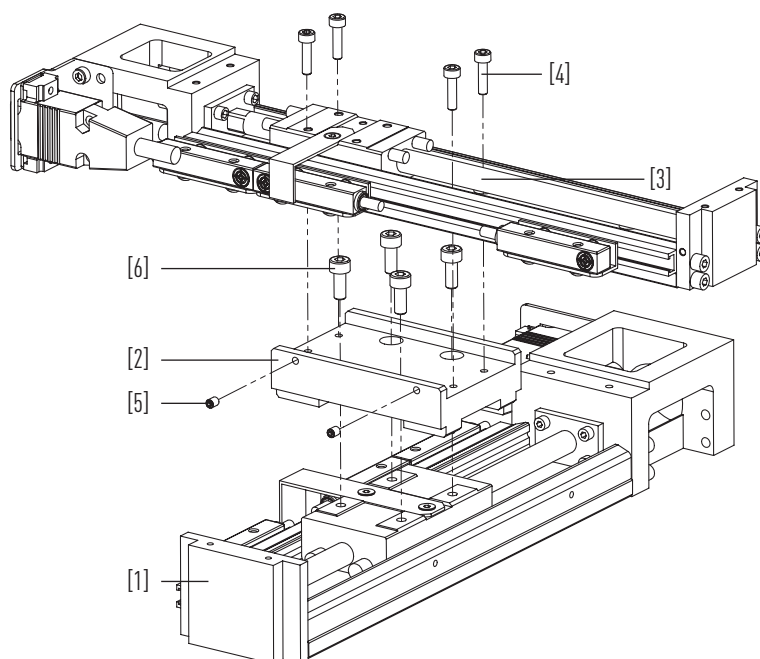

Fig. 6.12 Exploded view of cross table
- ▶ Connect the cross table adapter [2] with the screws [6] to the lower KK axis [1] as shown in Fig. 6.12. Tighten the screws with the torque from Table 6.9.
- ▶ Screw the upper KK axis [3] to the cross table adapter [2] as shown in Fig. 6.12, but only slightly apply the screws [4].